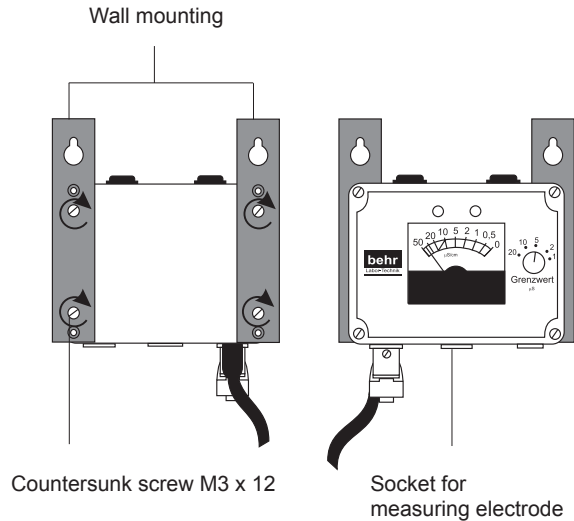

Fig. 3: Wall-mounted conductivitymeter
- ▶ Fasten the wall mounting brackets with two M3x2 countersunk screws each to the back of the conductivity meter (Fig. 3).
- ▶ Plug the measuring electrode cable into the appropriate socket (Fig. 3) on the conductivity meter.